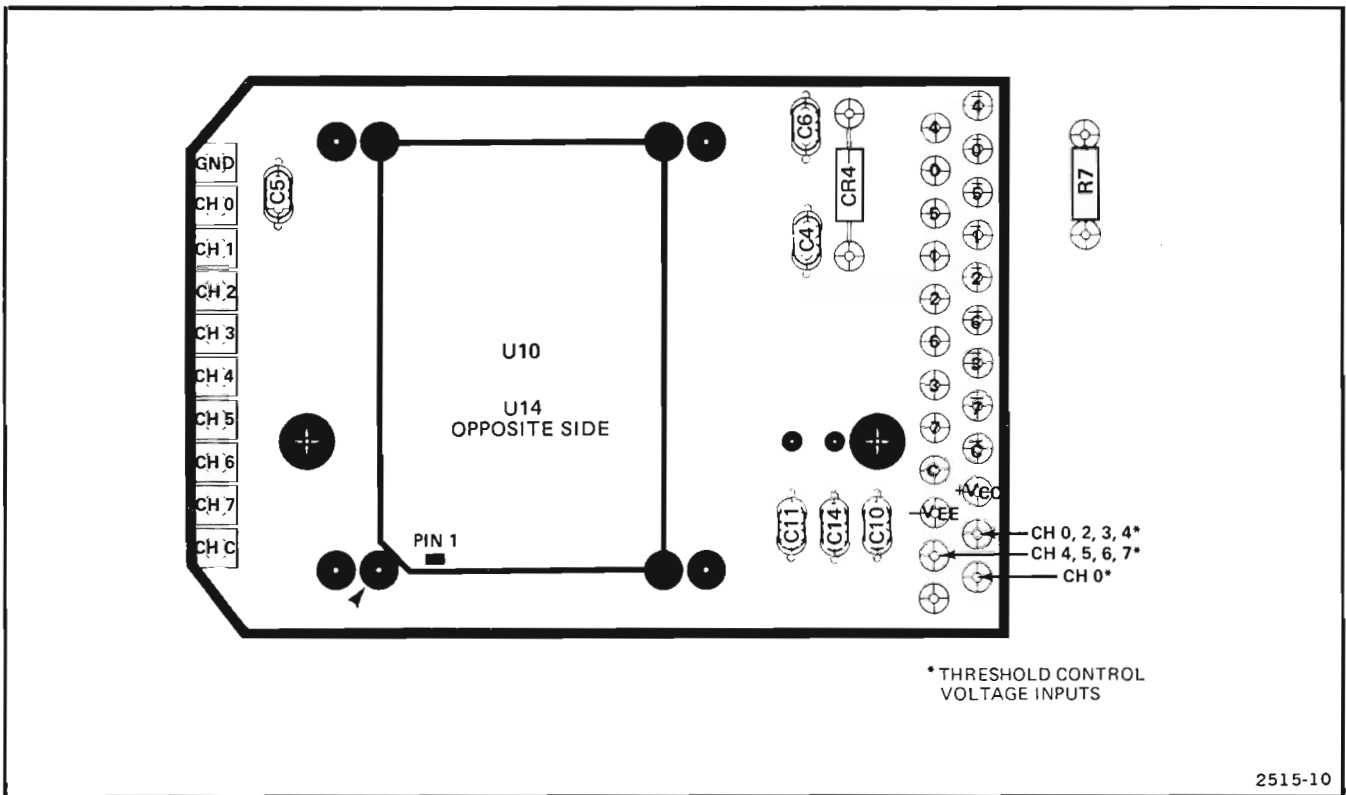
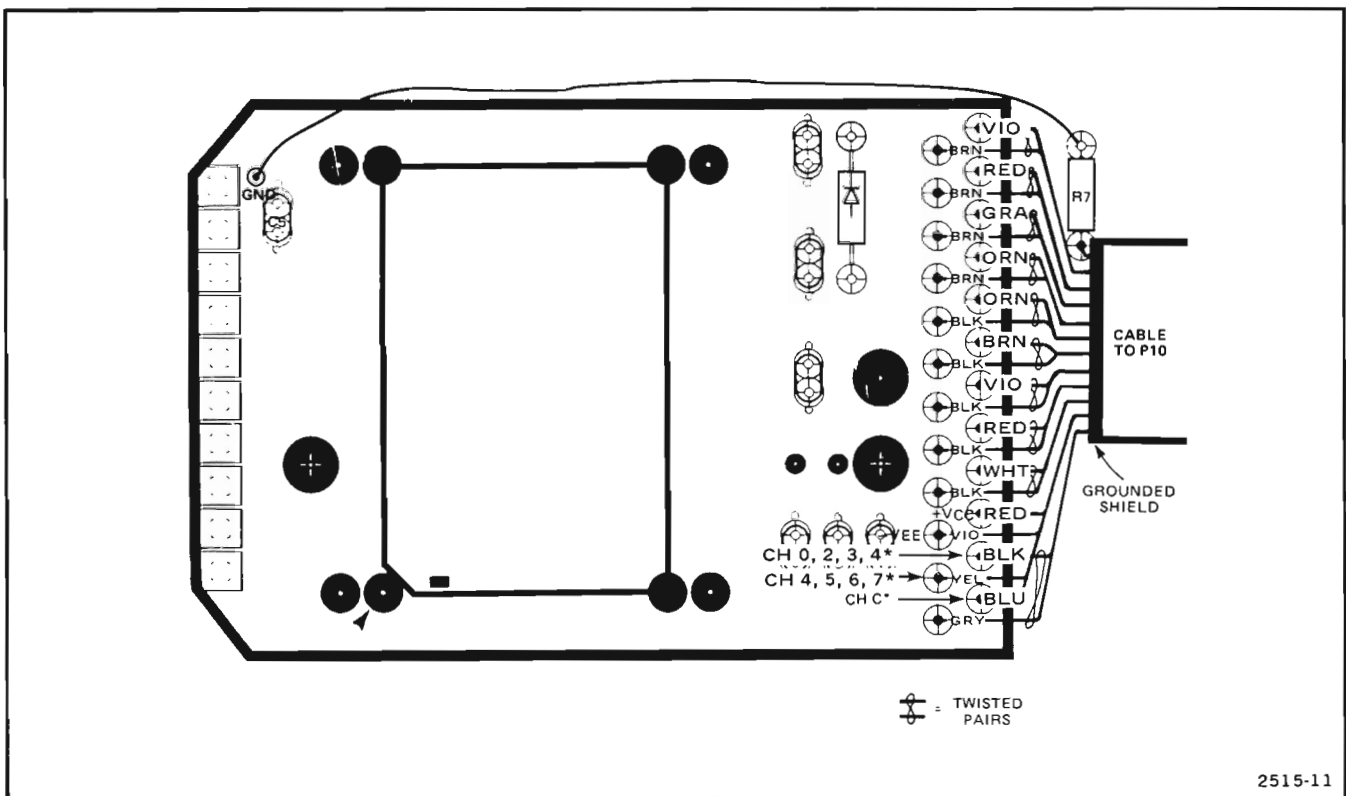

Figure 9. Component locations on the circuit board.
Figure 10. Probe head cable connections.
See Figure 9 for component locations on the circuit board; and see Figure 10 for probe head cable connections.
See Figure 10 for cable connections at the circuit board; and Figure 12 for output connector assignments.
5. Replacement of Parts. If one of the hybrid integrated circuits is defective, or if the circuit board is damaged, a wired circuit board with components is available. See the Replaceable Parts List for Tektronix part numbers of available components. Electrical replaceable components are called out by component number on Figure 9. The Replaceable Electrical Parts list contains reference to circuit numbers, and components are also called out by index numbers in the Replaceable Mechanical Parts list.